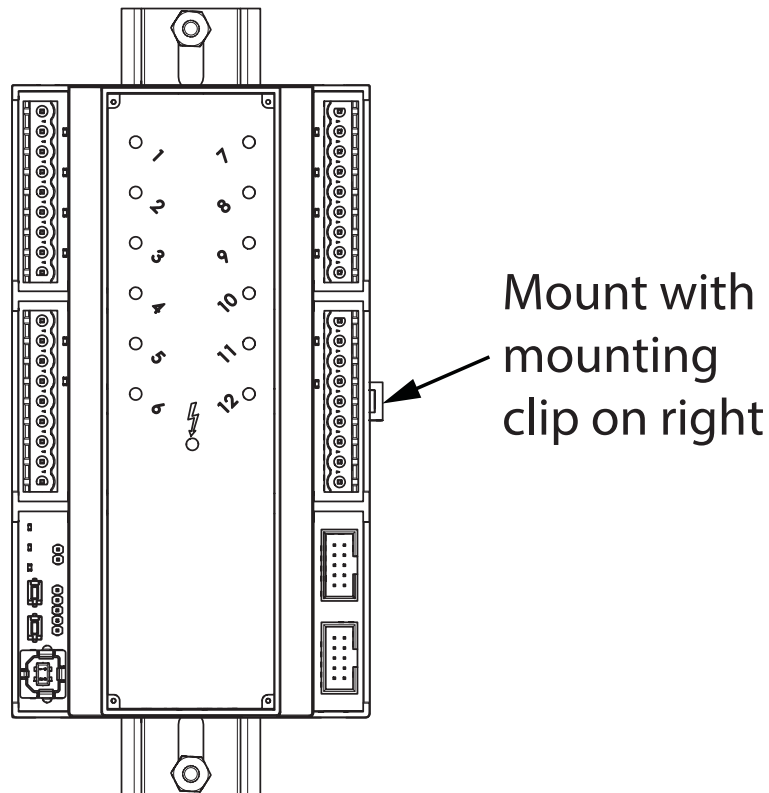

Figure 8 Enclosure mounted on DIN rail
2. Snap the base onto the enclosure. Make sure that the mounting clip is on the right as shown in Figure 8.
3. Connect the display to the connection labeled I2C1. Make sure that the display is oriented as shown in Figure 8.
Mount the enclosure with the Mircom logo the right way up, the mounting clip on the right, and the outputs on top, as shown in Figure 8.